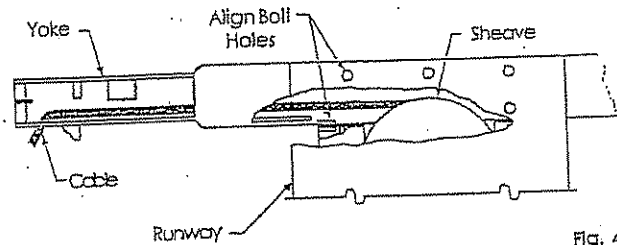
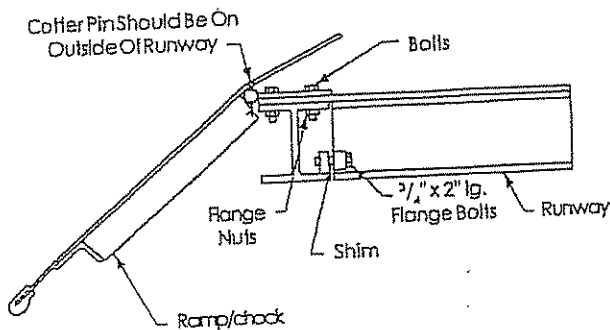
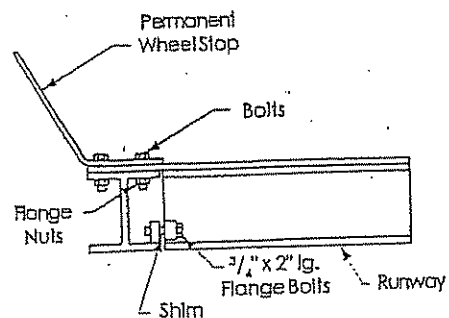

Fig. 4
Fig. 5
Fig. 6
- C. Position front and rear yokes at respective ends of runway, Fig. 1. Feed cable ends through yoke end, Fig. 4. Do not assemble sheaves in yoke ends at this time:
- D. Lay right runway in place on yoke. Slide right runway toward outside of lift until holes in yoke and runway line up, Fig. 4. Hold runway in place and bolt on ramp/chock and wheel stops to runway using ten (10) 5/8" x 2 1/2" bolts and flange nuts. Square up yokes with runways using four (4) 3/4"-10NC x 2" lg. bolts and shims. Ramp/chocks go on rear, Fig. 5. Permanent wheel stops go on front of runway, Fig. 6. Repeat for left runway.